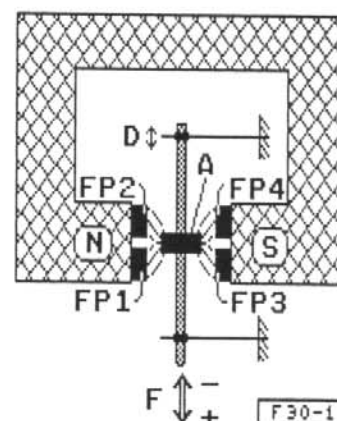

Fig. 2: Schematic diagram of F30
Fig. 2 illustrates the operation of the transducer. Four field plates (FP1 to FP4) are located inside the magnetic field of a U-shaped permanent magnet as shown. The core (A) is mounted on a spring-supported carrier; any displacement causes the magnetic flux to be shifted in the direction of the double arrow. This results in a change in the magnetic flux through the field plates and therefore in a change in resistance.